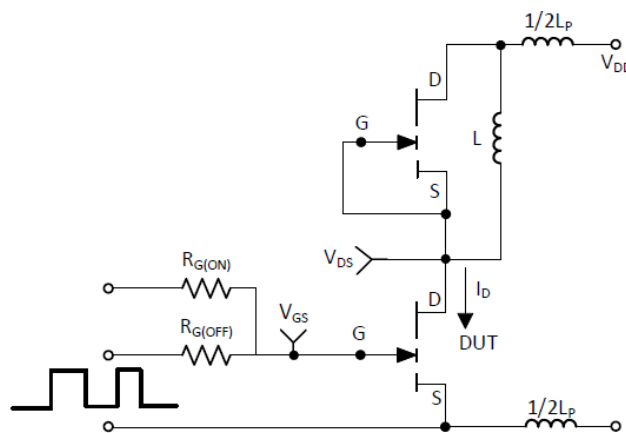

Figure 18: Switching Loss Test Circuit
(8) See Figure 18 for switching test circuit